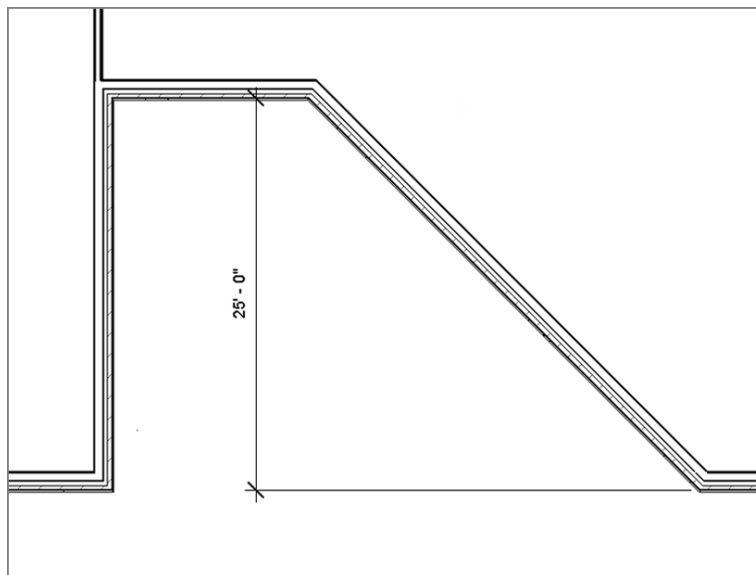

FIGURE 5.17: When you add a linear dimension to an angled wall, you get a straight dimension.
5. Pick the same spot on the other end of the wall, as shown in Figure 5.17. When you pick the second corner, the dimension follows your cursor in a straight direction.
6. Move your cursor to the left, approximately 8' (2400mm) past the first point you picked, and pick the third point to place the dimension (see Figure 5.17).